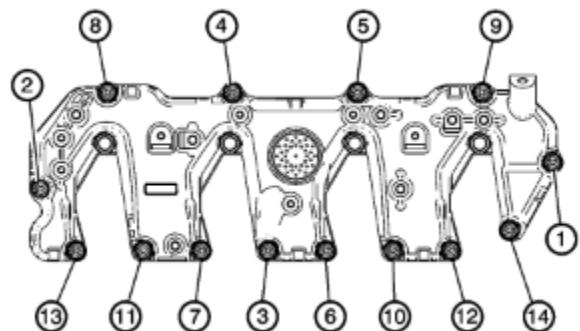

Fig. 80: Upper valve cover tightening sequence (both sides)
- d. Install the new upper valve cover gasket (item 1) onto the driver's side upper valve cover. Install the new upper valve cover grommets (item 3) and bolts (item 4). Install the upper valve cover (item 2) onto the lower valve cover and torque the bolts to 89 in-lb in the sequence shown in figure 80.
- e. Repeat step 7d for the passenger side upper valve cover. Reference the tightening sequence shown in figure 80.